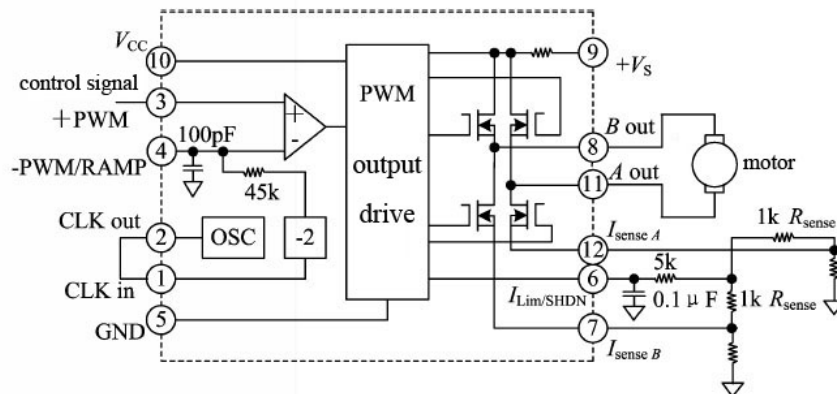
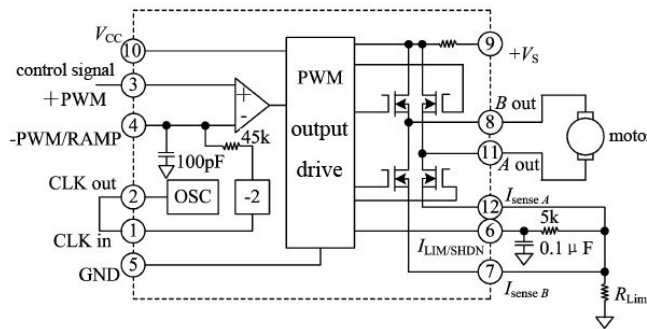

Fig. 2 Circuit block diagram
Fig. 5 Connection diagram for typical application
5. Operating principle (Fig. 2)
HSA06 has two current sampling terminals I_{senseA} and I_{senseB} , when adopting voltage mode control, these two terminals shall be short-circuited, the typical connection diagram is shown as in Fig. 5; while adopting current control, they shall be connected to sampling resistance and the sampling resistance shall choose non-inductive resistance, the typical connection diagram is shown as in Fig. 2.